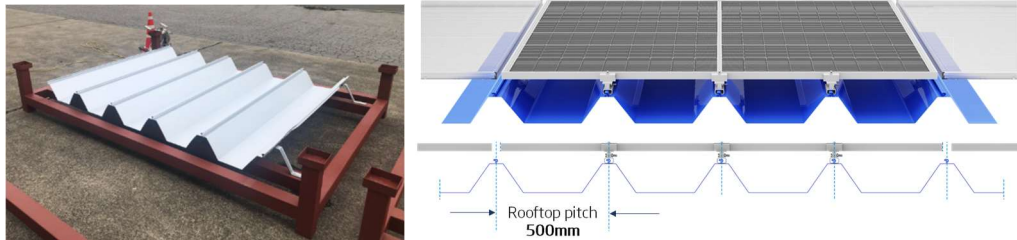

Figure 4:Typical Shell roof of Japan instalation
- The following installation conditions and loads are only applied to typhical shell roof in Japan. The pitch distance is 500mm as shown in figure 4.